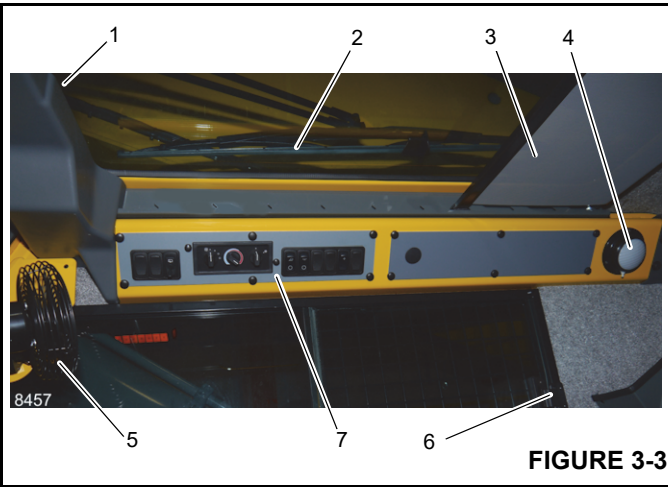
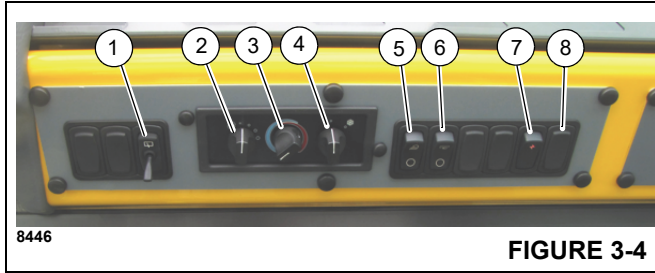

FIGURE 3-3
FIGURE 3-4
The Skylight Window Latch (1) Figure 3-3 is at the front of the window. Squeeze latch and slide window to the rear to open. To close, slide window forward until the latch engages.
The Skylight Wiper (2) (Figure 3-3) is controlled by the Skylight Wiper Switch, (4) (Figure 3-4), and operated by the Wiper Motor.
The Skylight Sunscreen (3) (Figure 3-3) reduces direct sunlight. The sunscreen is self retracting and can be set to screen all light or adjusted rearward by moving it to notches provided.
The cab Dome Light (4) (Figure 3-3) is on the right rear corner of the cab overhead console and provides illumination in the cab. The dome light is controlled by a switch on the light.
The Cab Circulating Fan (5) (Figure 3-3) is located on left front side of cab above the window frame. A swivel allows the fan to be rotated and a switch on the fan base controls the fan. The switch has a high, low and off position.
Window on the right side of the cab can be opened. Squeeze latch (6) (Figure 3-3) to release and slide forward. To close, slide window rearward until latch engages.
The electrically-operated Skylight Wiper is installed to remove moisture from the skylight. The Skylight Wiper is controlled by the Skylight Wiper Switch (1) Figure 3-4. This switch has 6 positions, including intermittent setting.
The Heater/Air Conditioner Fan Speed Switch (2) Figure 3-4 controls cab fan speed and volume of heated or cooled air output. Settings are off, low speed, medium speed, and high speed.
The Heater Control Switch (3) Figure 3-4 controls heating temperature. Turn switch right (clockwise) to open valve for heat. (Heat comes from heated fluid going through the heater coil.) Turn switch left (counterclockwise) to close the valve, reduce fluid flow, and minimize heat.
The Air Conditioning Switch (4) Figure 3-4 controls the optional air conditioning system. Settings are Off (O) and On (I).
The Work Lights Switch (5) Figure 3-4 controls work lights mounted on bottom front of the superstructure cab. Press top of switch to turn work lights on. Press bottom of switch to turn work lights off.
The Crane Function Power Switch (7) Figure 3-4 is located on the overhead control panel. This spring return switch permits the operator to activate all crane functions at once or disconnect power from crane functions controlled by the remote controllers on the armrests. Pressing it turns ON all crane functions. Pressing a second time turns OFF all crane functions. Turn off all crane functions to prevent inadvertent operation of functions due to bumping controllers while loading or any other operation.
The Engine DPF (Diesel Particulate Filter) Switch (8) Figure 3-4 is located on the right side of the overhead control panel. This is a three position switch: Inhibit Cleaning/Permit Active Cleaning/Initiate Manual Cleaning. Center position enables clean to occur when required, or press this switch to force manual cleaning to begin immediately or to disable cleaning indefinitely:
The Inhibit Exhaust System Cleaning Indicator (25) is located in the CCS display Figure 3-14. When the Cleaning Switch (8) Figure 3-4 is in the exhaust system cleaning position, this amber indicator is illuminated and active and manual exhaust system cleaning is prevented.